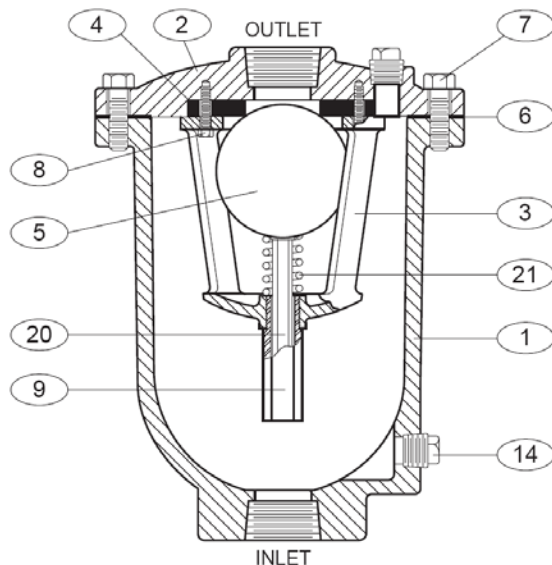

FIGURE 2. 1/2"-3" VACUUM BREAKER
The Vacuum Breaker body and cover are cast iron. All internal components are stainless steel with the exception of the valve seat which is resilient. The float (5) and float guide shaft (20) are the only moving parts assuring long life with minimal maintenance. The general details of construction are illustrated in Figure 2. The body (1) is threaded for connection to the pipeline. The seat (4) is retained in the cast cover (2). The seat (4) is retained by a baffle (3).